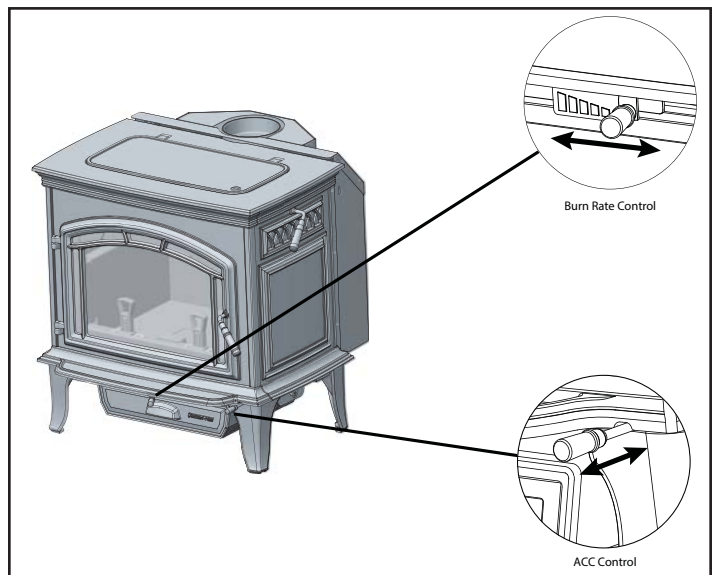

Figure 9.1
1. This appliance has a timer system (ACC) that operates the stove at its maximum efficiency removing any guess work for the homeowner. Follow the instructions below for each burn rate for the Start-Up Air Control and Burn Rate Air Control. **Figure 9.1**